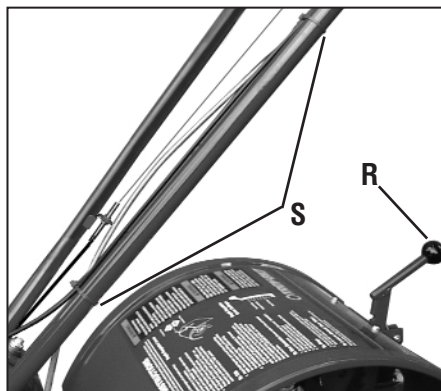

Figure 2-13: Attach wheel gear cable and reverse clutch cable with cable ties (S).
1. With the tiller on level ground, pull the Depth Regulator Lever (R, Figure 2-13) back and then slide it to the second notch from the top. NOTE: If the lever does not move, lift the tine hood flap and look for a plastic tie securing the lever in place. Cut and remove the tie.
2. With the unit on level ground, move the Depth Regulator Lever (R, Figure 2-13) up or down until the engine is level.
4. Secure the wheel gear cable and the reverse clutch control cable to the left-side handlebar with two plastic ties (S, Figure 2-13) located about two feet apart. Snip off any excess tie length with scissors.